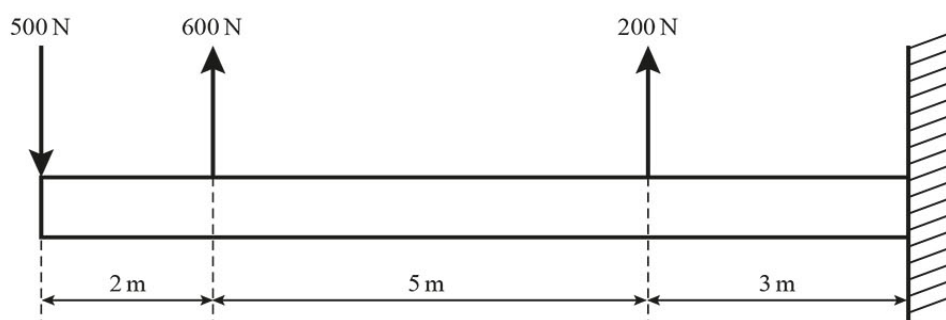

Fig. 7
- (b) Fig. 7 shows a cantilever beam of length 10 m fixed to a wall. The beam is subjected to point loads of 500 N, 600 N and 200 N. The mass of the beam can be ignored.